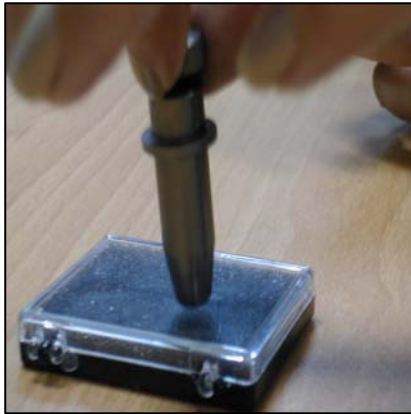

Figure 2-14
2. Push the blade to the bottom of the blade holder. (Figure 2-14)